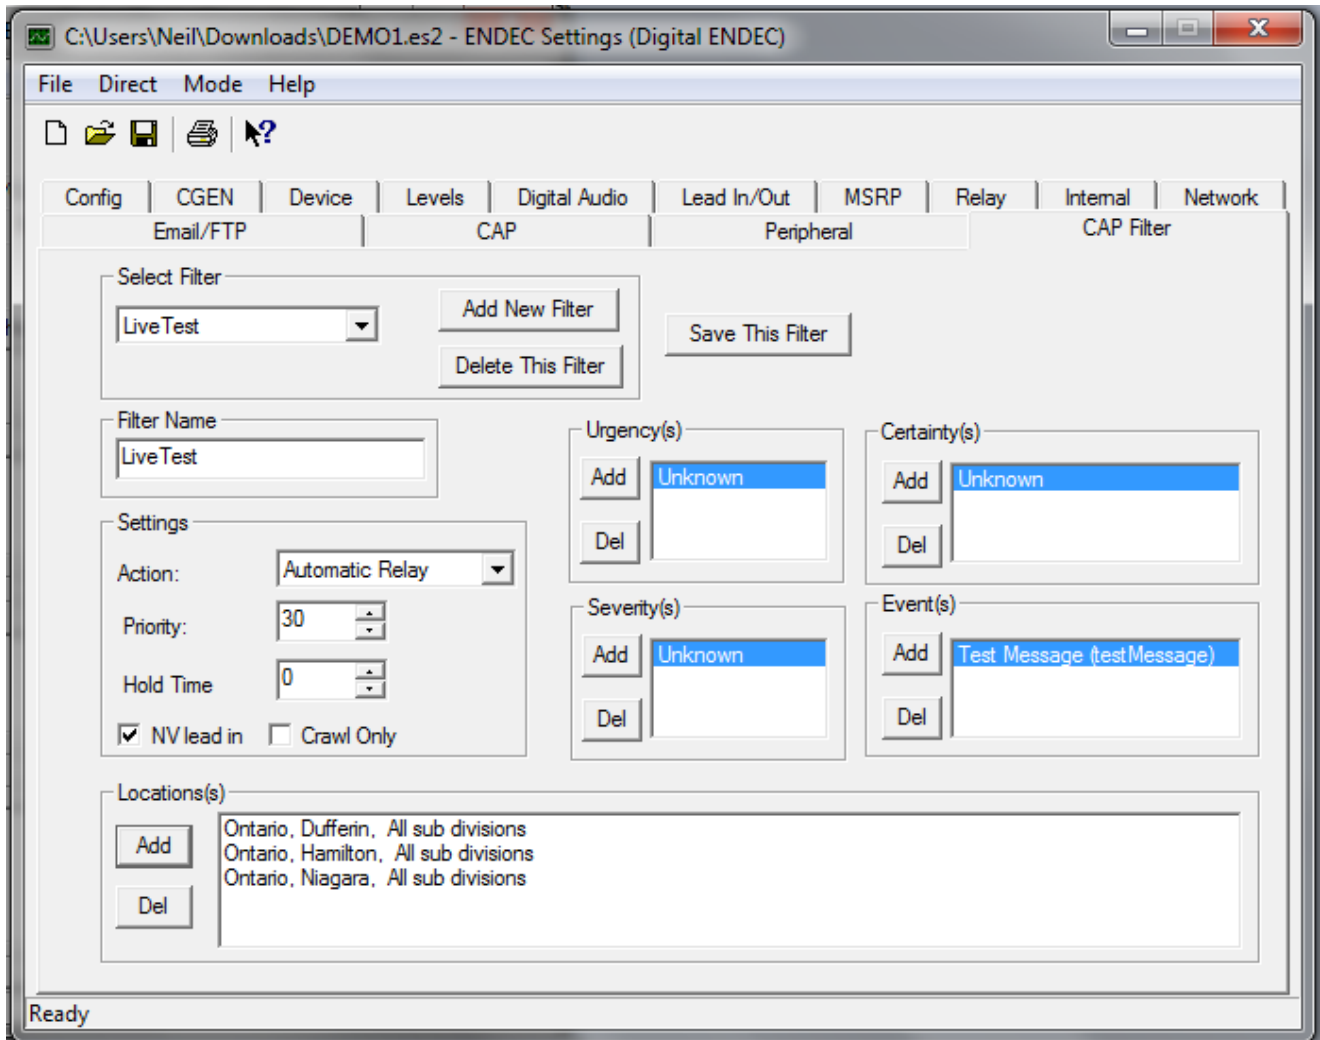

Figure 13.
a. The filter shown in Figure 13 is the “Live-To-Air” test filter which is optional for the user. As of March 31, 2015, the Provincial Emergency Operations Centres have initiated scheduled tests of the NAADS system which do not require this filter. Use this filter only if you wish to participate in tests scheduled for times other than those listed on the Pelmorex website as “Public awareness test messages” (for current list of scheduled dates and times, refer to <https://alerts.pelmorex.com/#test-schedule> )